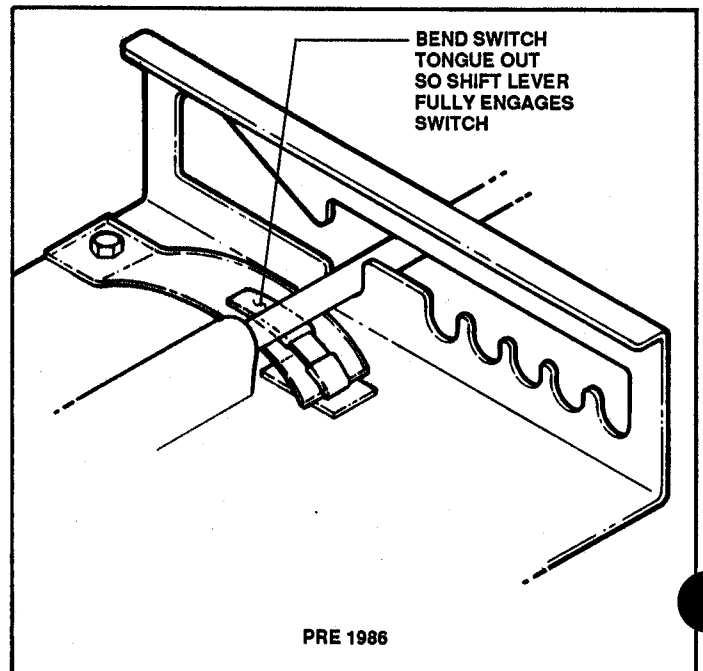

FIGURE 6.6
- (a) Bend the switch tongue outward to allow the shift lever to contact switch sooner. See Figure 6.6.